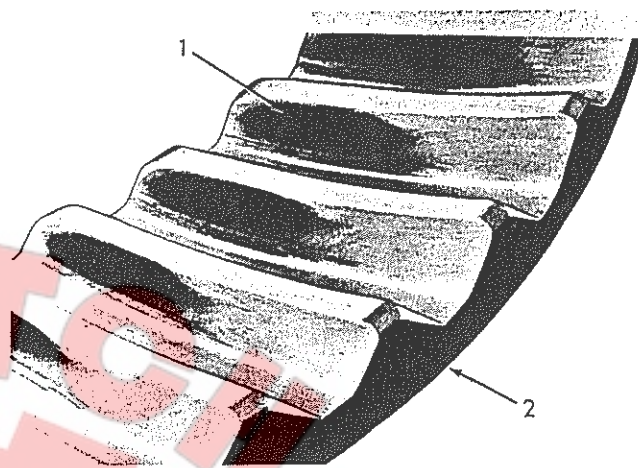

Fig. 17 Satisfactory Tooth Contact - No Load (T-31450)
- d. Correct tooth contact pattern is shown in Fig. 17. If contact pattern is NOT satisfactory, add or remove pinion depth adjusting shims Fig. 6 (25), until pattern is satisfactory.